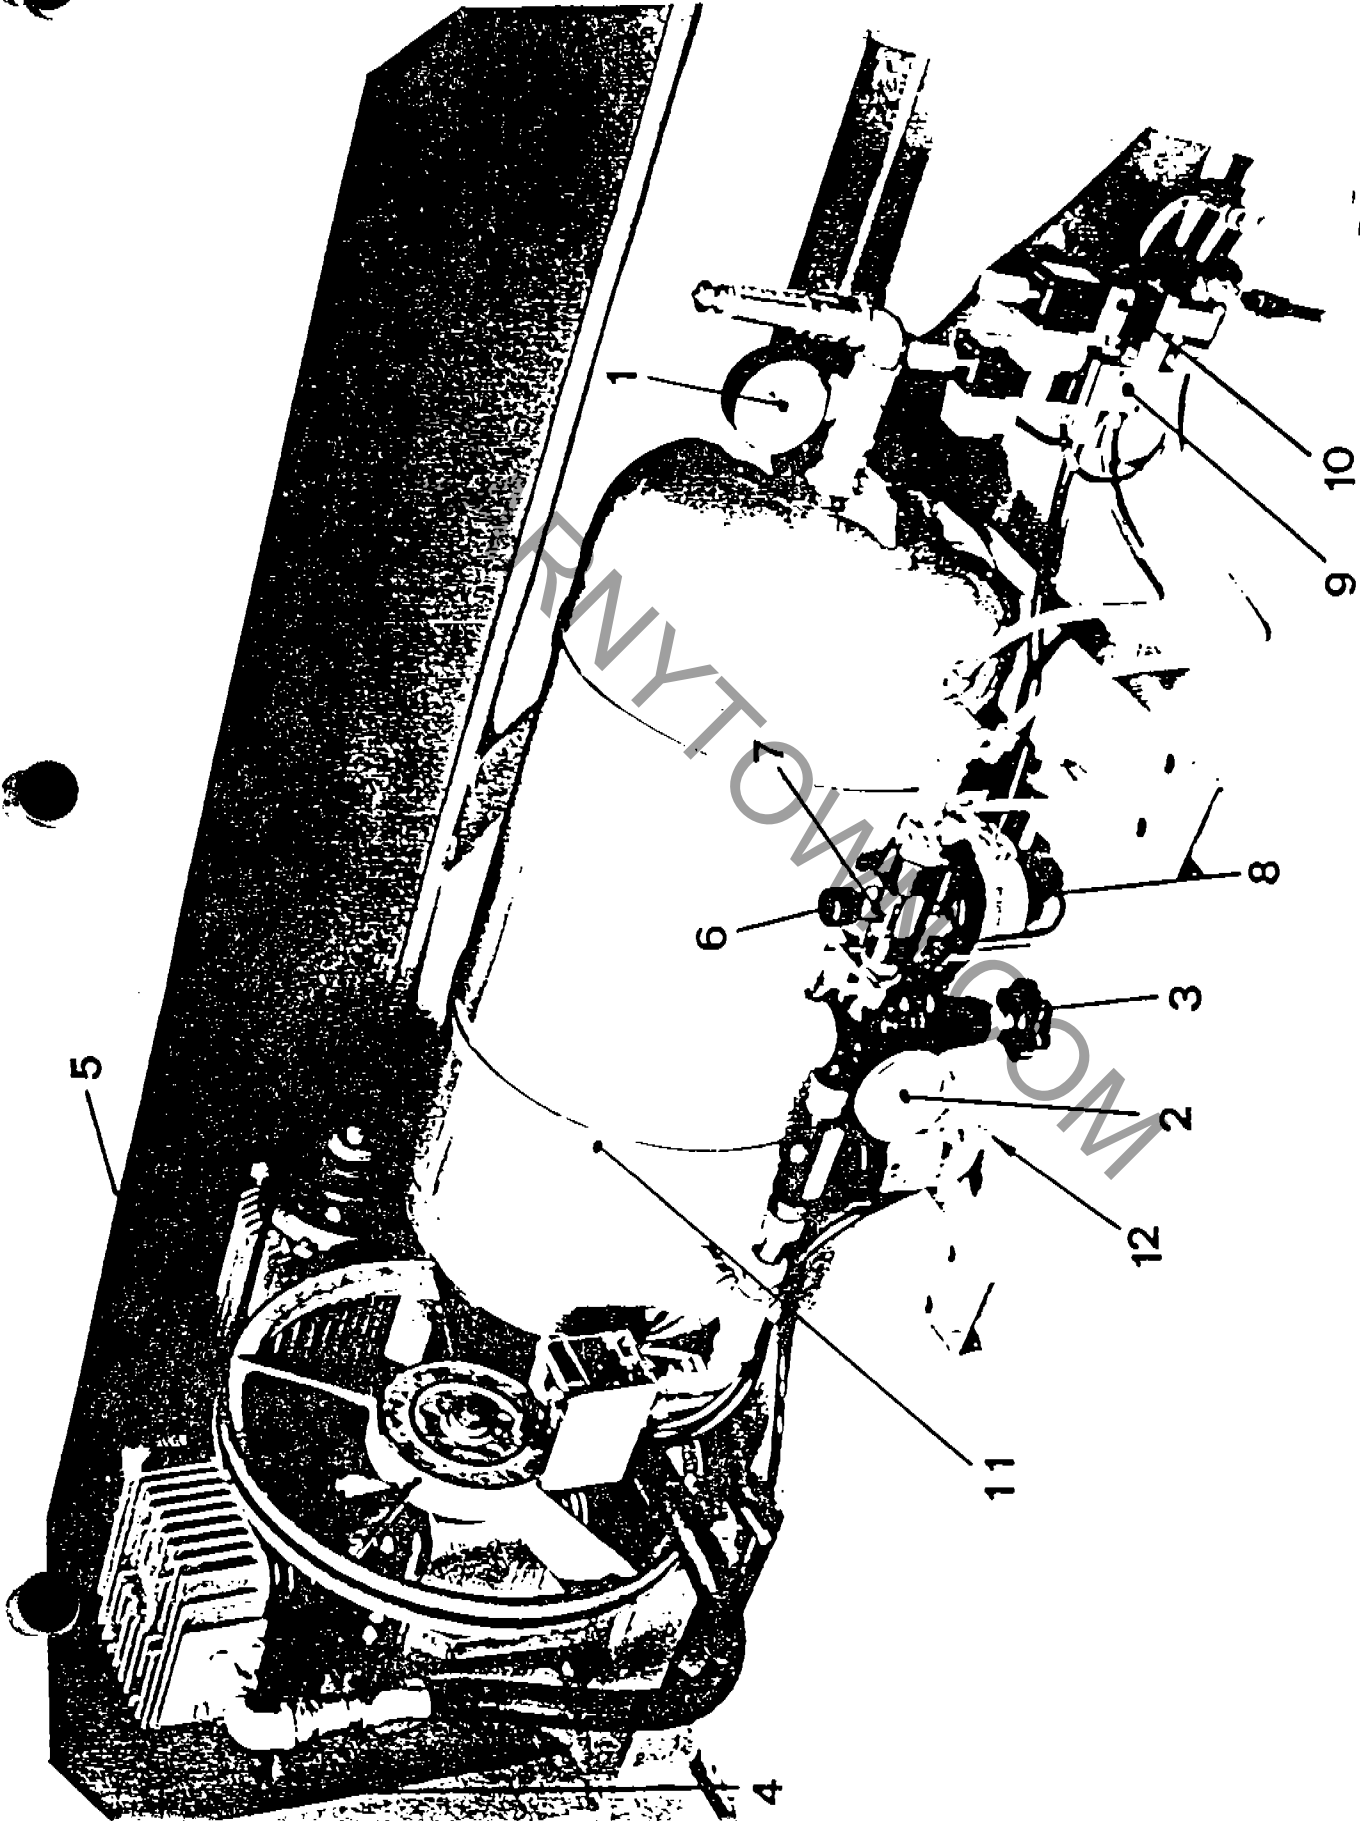

FIG. 4
- Reserve pressure (tank) from 5 to 8 Kg/sq. cm. It is to be read on gauge (1 fig. 4).
- Operating pressure from 3 to 5 Kg/sq. cm. It is to be read on gauge (2 fig. 4), and it can be adjusted on the reduction unit panel (3 fig. 4).